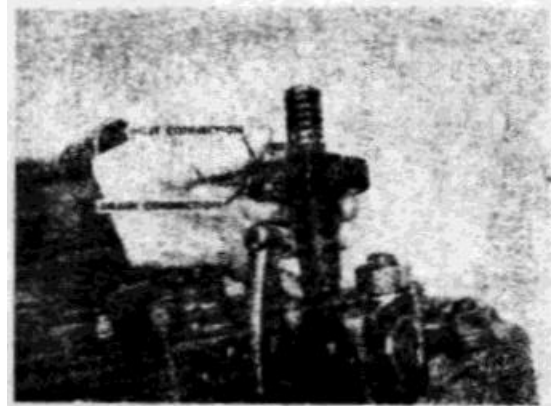

Figure 2-1. Assembling injectors
3. Assemble the injectors in position. Fig. 2-1.